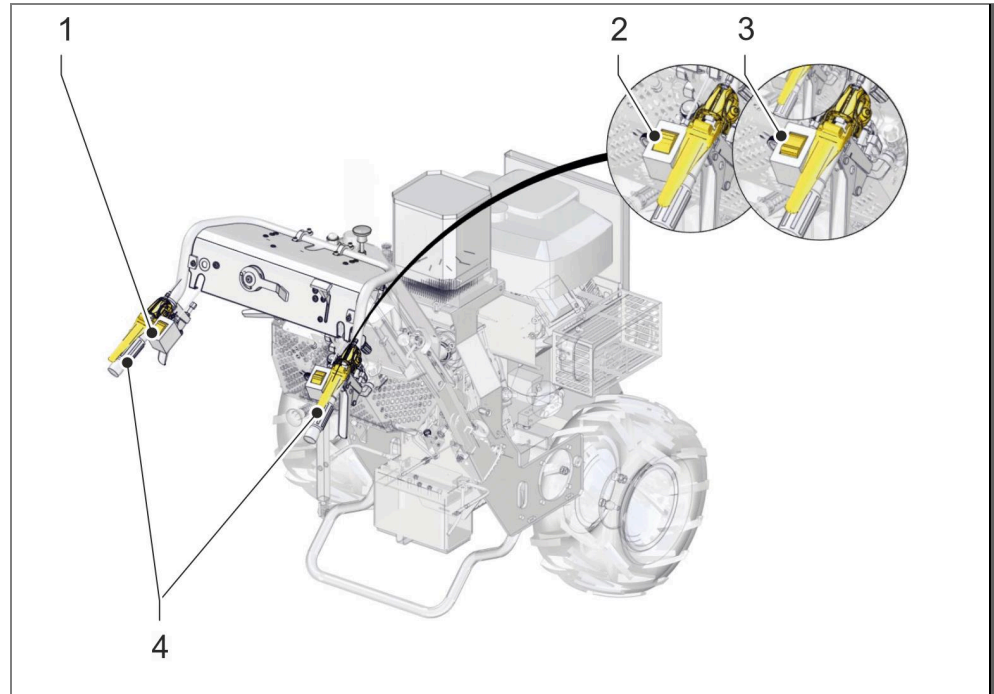

Fig. 22: Active steering – forward travel
2. Set the direction switch (1) to the zero position.
4. Turn the direction switch (1) forward. The single-axle carrier vehicle rolls slowly in the direction of travel.
- 5th As shown in Fig. 22, the single-axle carrier vehicle is accelerated when moving forward by moving the rotary switch forwards (2). The single-axle carrier vehicle is decelerated by moving the rotary switch backwards (3). The deceleration or acceleration takes place gradually between 0 - 6 km/h.